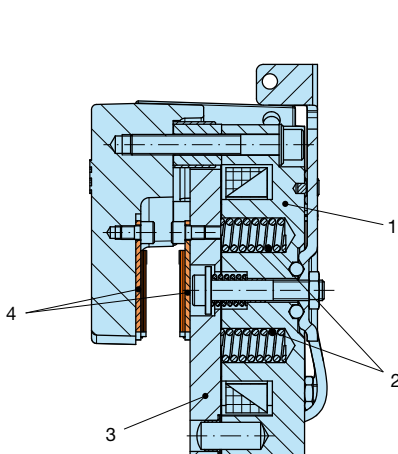

Fig. 1
In de-energised condition, thrust springs (2) press the armature disk (3) against the brake disk (Fig. 1). The brake disk is held between the friction pads (4).